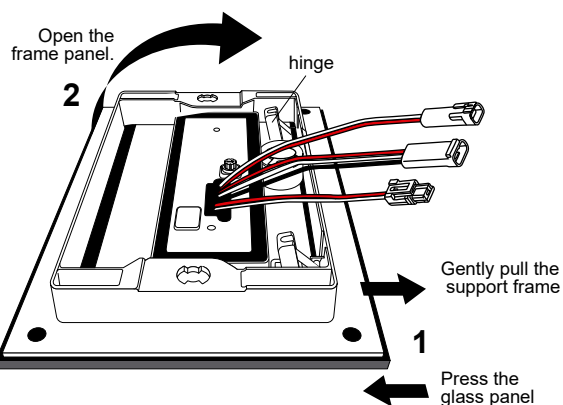

Figure 34
7. Position the support frame with the open electronic panel on the cistern; pressing it against the wall, insert the two slotted fixing bolts (A) as far as they will go; turn them 1/4 turn clockwise (B) to lock them in place. Then, turn each of the locking levers incorporated into the slotted bolts 90°: the left bolt 90° down and the right bolt 90° up (Figure 34).